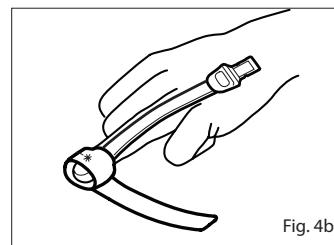

Fig. 4b
3. Refer to Fig. 4b. Wrap the adhesive wrap around the finger so the emitter window (*) aligns on the top of the finger directly opposite the detector. Complete coverage of the detector window is needed to ensure accurate data.